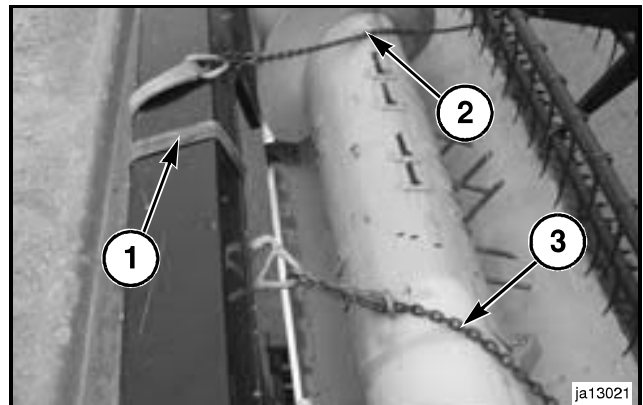

FIG. 33
FIG. 33: Wrap a nylon strap (1) around truss assembly above feeder house opening, attach a chain, (2) and (3), to each end of the strap, then tie-down forward and to the sides as shown in FIGURE.